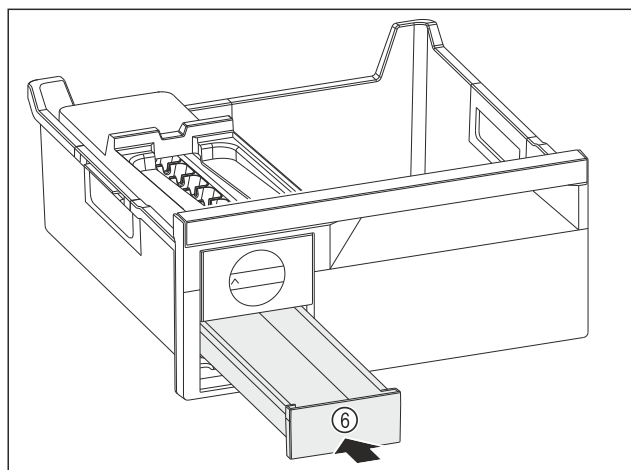

Fig. 150
- Insert the ice cube drawer Fig. 150 (6).